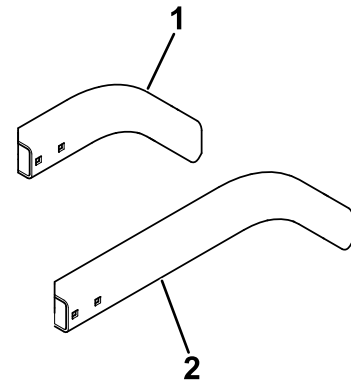

Figure 19
- **Model 31980 equipped:** Secure the right long mount (Figure 19) to the right mount using 2 carriage bolts (5/16 x 3/4 inch) and 2 flange nuts (5/16 inch).
- **Model 31981 equipped:** Secure the right short mount (Figure 19) to the right mount using 2 carriage bolts (5/16 x 3/4 inch) and 2 flange nuts (5/16 inch).